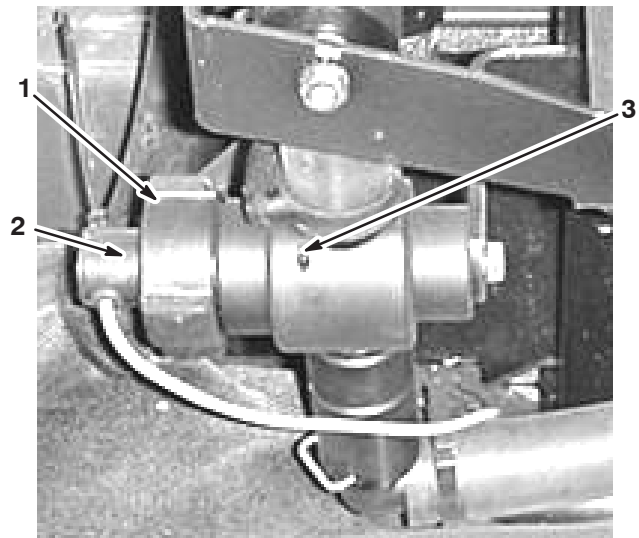

Figure 60
1. Remove the retaining cap from the flowmeter body (Fig. 60).